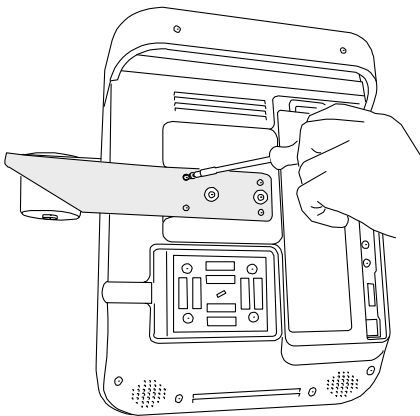

Figure 12 Tighten transducer holder.
- 3 Using the magnetic screwdriver, tighten the four 8mm Phillips-head screws. See Figure 12.